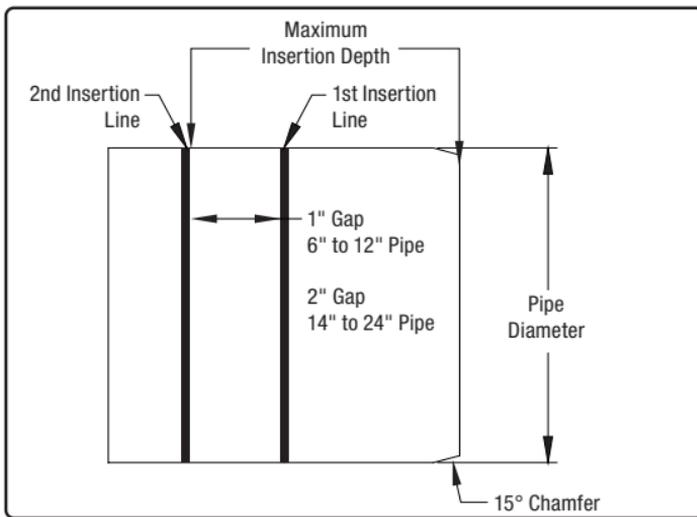

Figure 5 Chamfer Detail.
**IMPORTANT: This is the maximum insertion depth. Leave the second insertion line showing when the pipe is assembled. See Figure 5 below.**